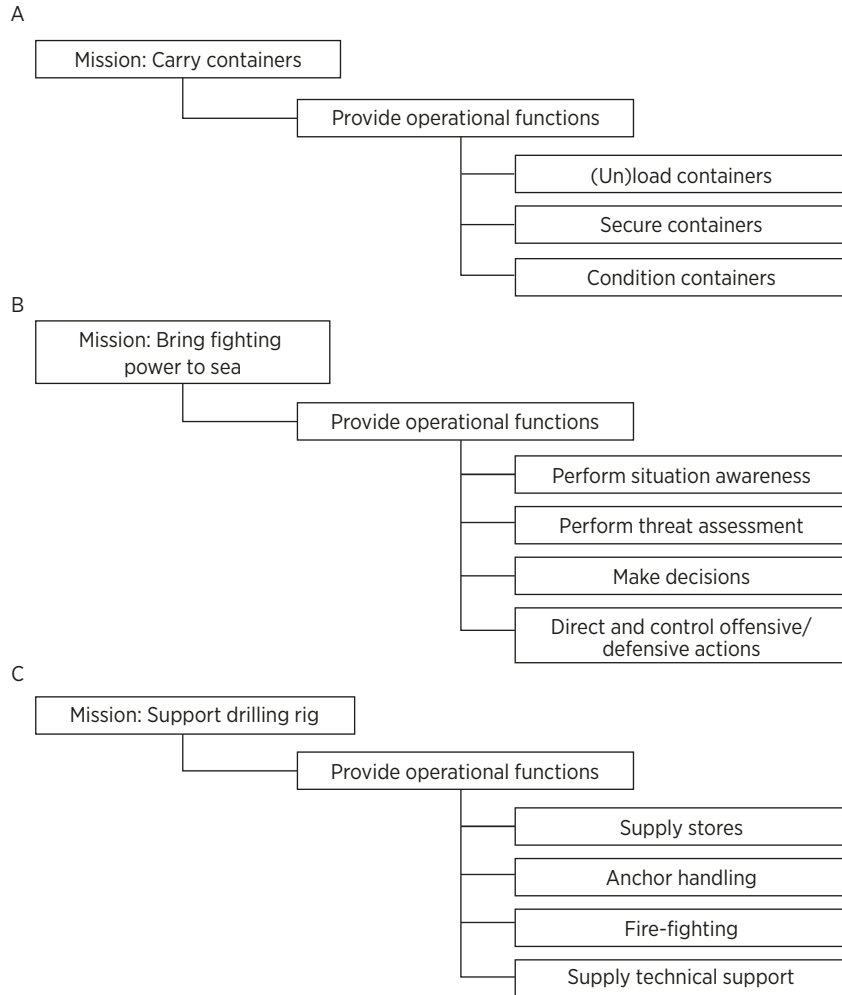

Figure 1.2 Examples of mission specific operational functions
Figure 1.2 shows the operational function for three specific examples: (A) a container ship, (B) a frigate and (C) an offshore support vessel.